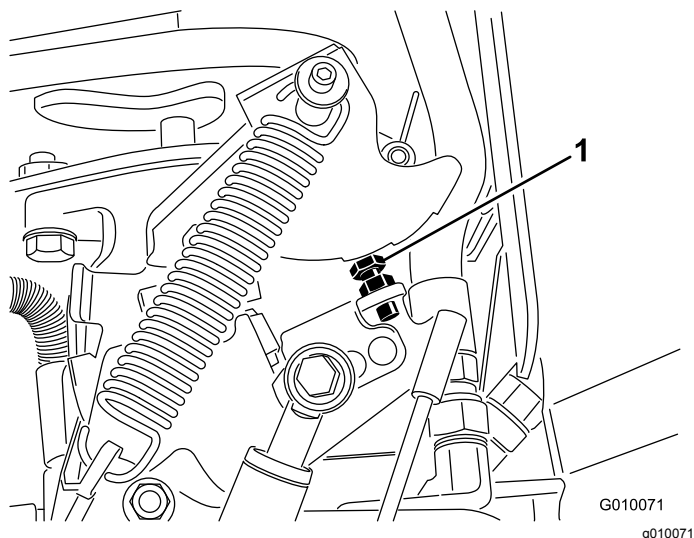

Figure 70
6. If an adjustment is needed, turn the pump stop bolt (Figure 70) closer to the stop plate to decrease hole spacing or turn the stop bolt away from the stop plate to increase hole spacing.